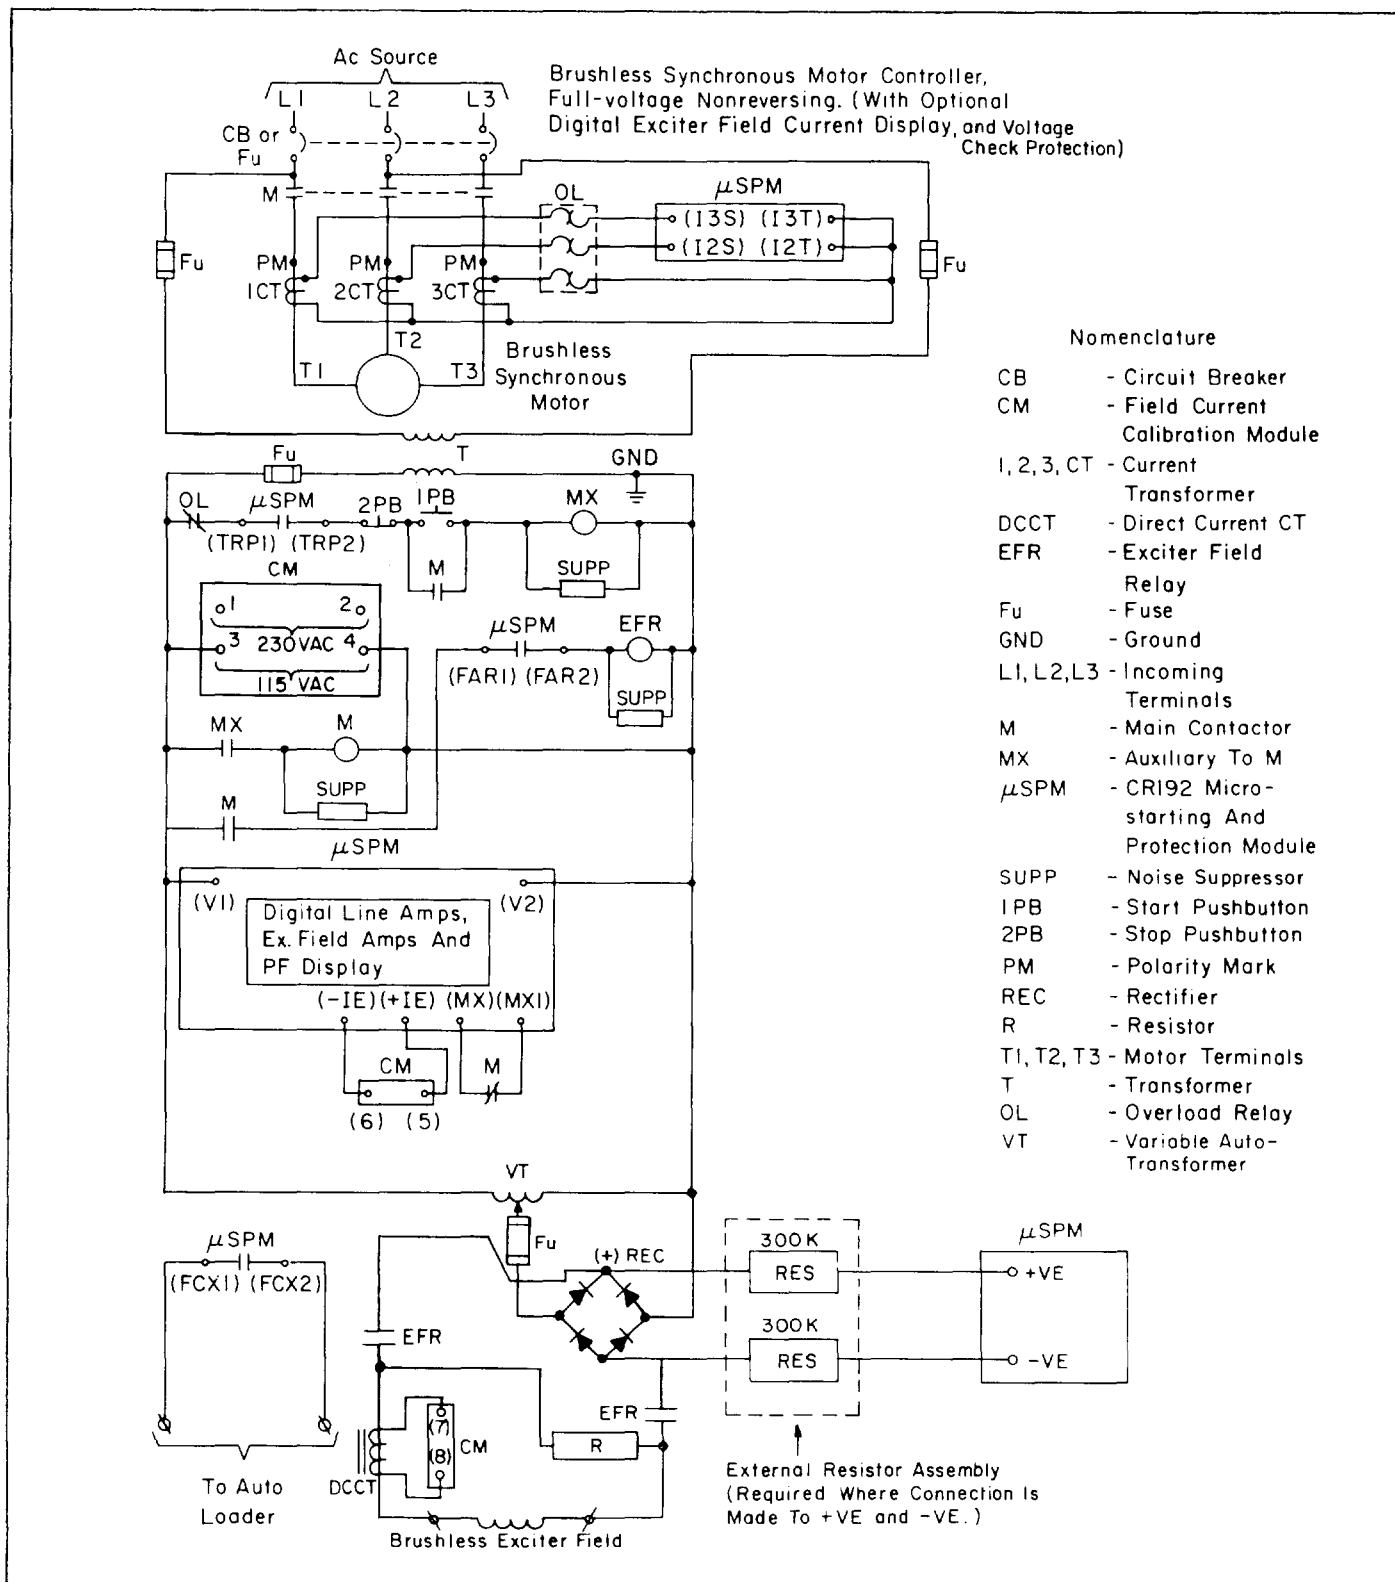

Figure 23. Typical brushless elementary diagram
The brushless motor is started by first applying power to the stator windings followed by application of dc to the exciter field. See Figure 23.
**NOTE:** It is important to connect current inputs for  $I_1$  and  $I_2$  as shown in Figure 23 for brushless machines.
An external resistor assembly of two 300K ohm resistors is required to be connected as shown in Figure 23 when either the "EXCITER VOLTAGE CHECK" option or the "FIELD VOLTS DISPLAY" option is supplied. Connect these resistors to the "+VE" and "-VE" inputs.